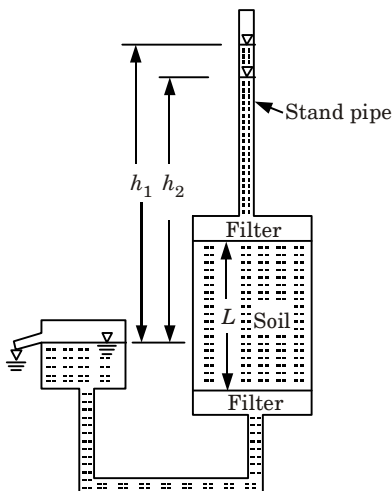

Fig. 10. Arrangement for variable-head permeability test.
- ii. A typical set-up for falling head permeability test is shown in Fig. 10. The water level in the stand pipe is observed from time to time.